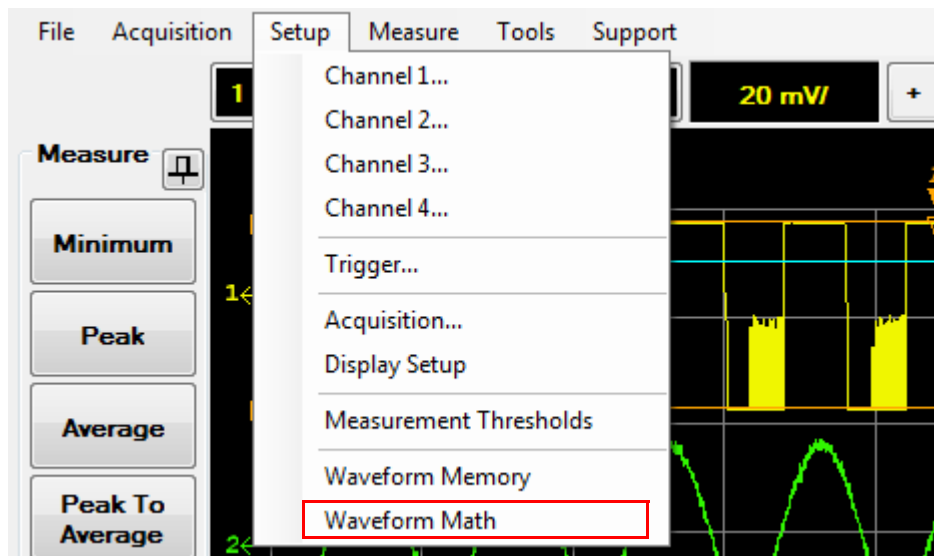

Figure 2-53 Waveform Math selection in the Setup menu
- 1 Select **Setup** > **Waveform Math** on the toolbar as shown in Figure 2-53.